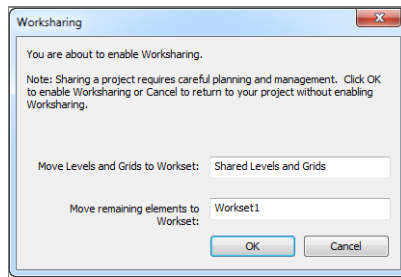

FIGURE 22.3: The Worksharing dialog
3. A Worksharing dialog welcomes you to the point of no return. Accept the default values—Shared Levels And Grids and Workset1—as shown in Figure 22.3, and click OK.